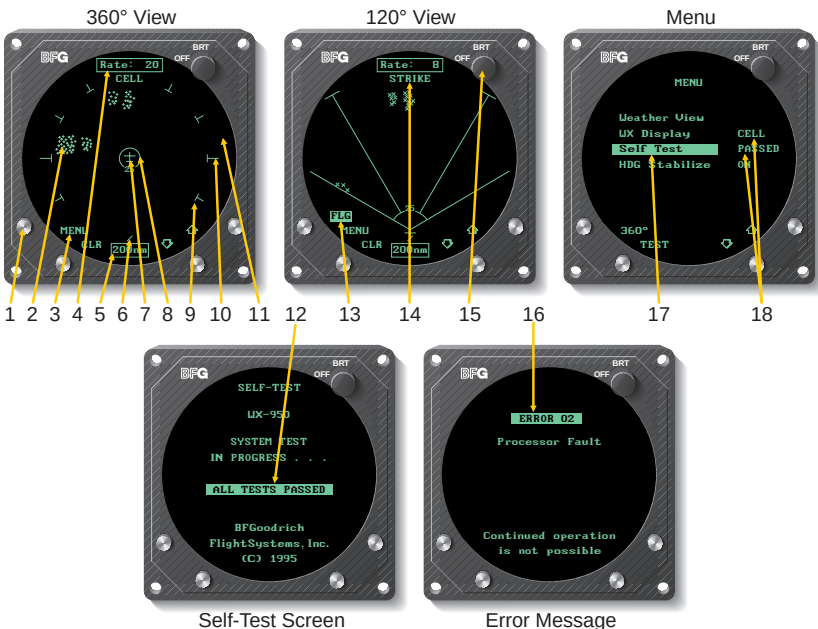

Figure 3-1. Controls and Indicators
Figure 3-1 calls out all the major controls and indicators on the *Stormscope®* model WX-950. Table 3-1 is the legend for figure 3-1.
- a. From either of the two weather views (360° or 120°) press the MENU button. (See figure 3-1.)